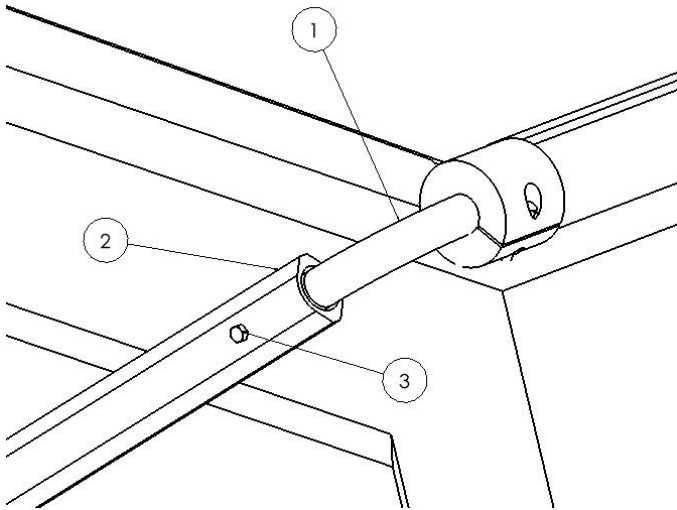

Figure 4.3
Place the cross tube on the tailgate of the dump box. Slide the ends of the cross tube into the bulletproof arms. Secure the cross tube (1) to the bulletproof arms (2) using a 5/16" x 2-1/4" hex bolt (3) and hex nut as shown in Figure 4.3.